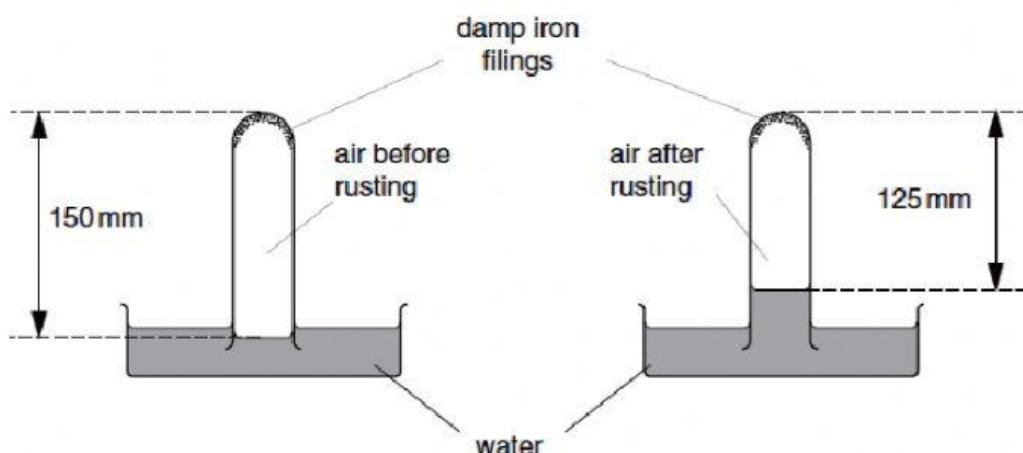

Fig. 1
1. Fig. 1 shows an experiment about the rusting of iron fillings. As the iron rusts, the level of the water rises in the inverted test-tube.
(a) Use Fig. 1 to calculate how far up the test-tube the water rises.